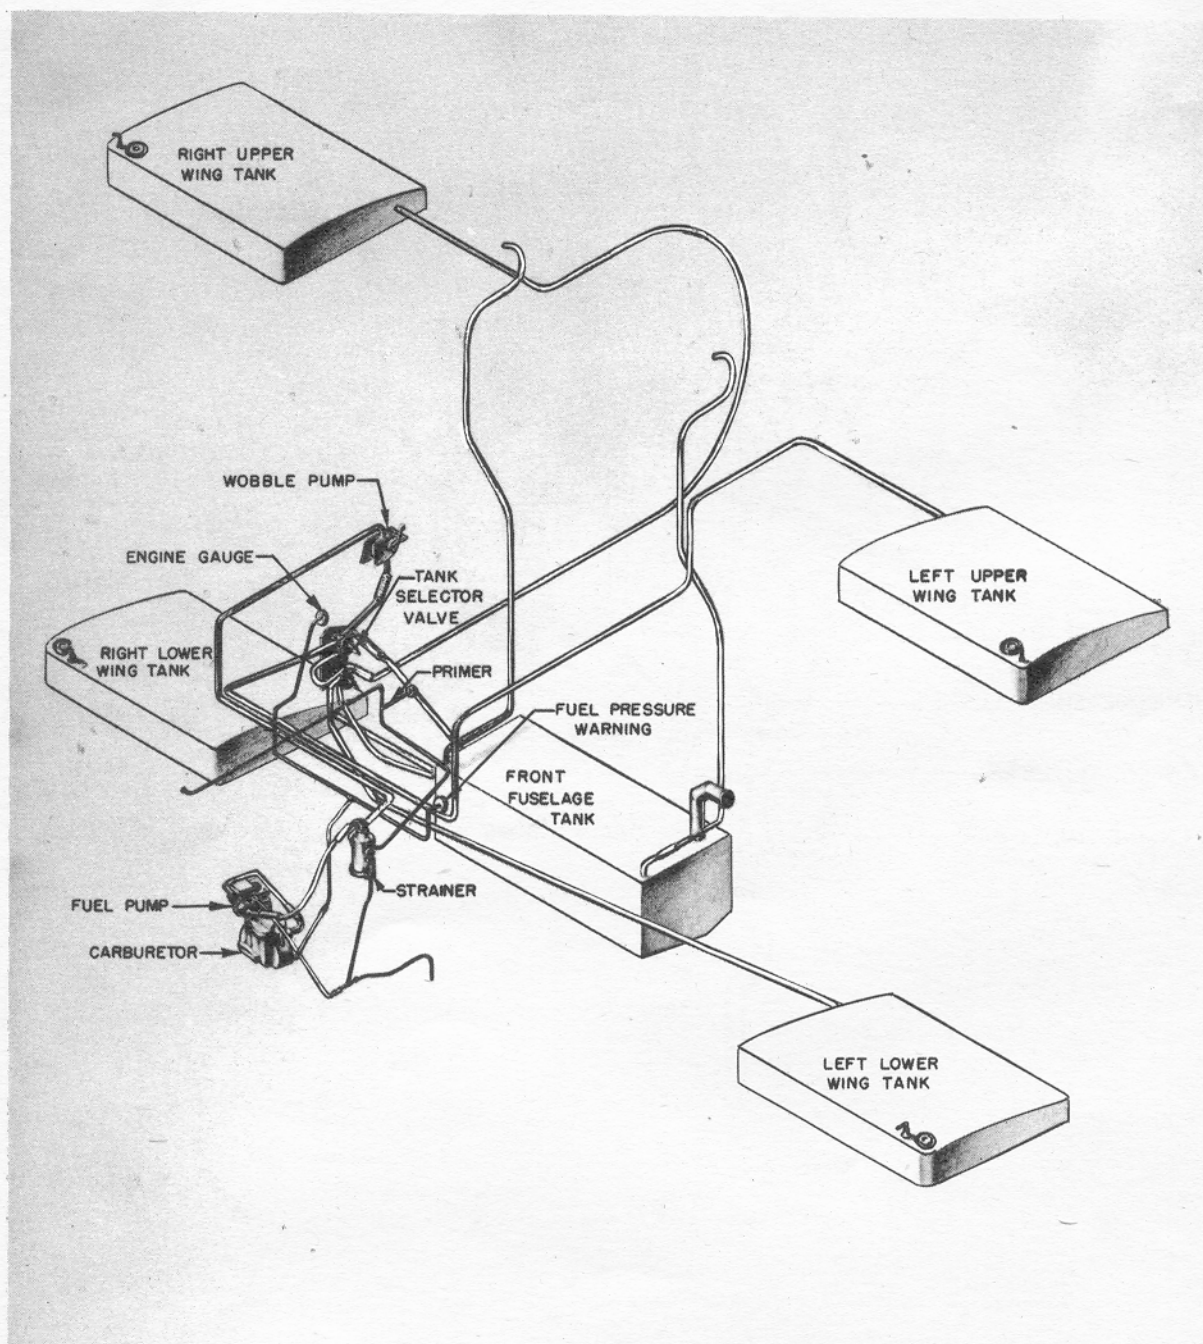

Figure 10 - Fuel System
f. Fuel System. (See figure 10.) - Five fuel tanks are provided: The main fuselage fuel tank and one fuel tank in each upper and lower wing. Total fuel capacity is 121 U.S. gallons (100.8 Imperial gallons) of which 29 U.S. gallons (24.2 Imperial gallons) is carried in the main fuselage tank and 23 U.S. gallons (19.2 Imperial gallons) is carried in each of the four wing tanks.